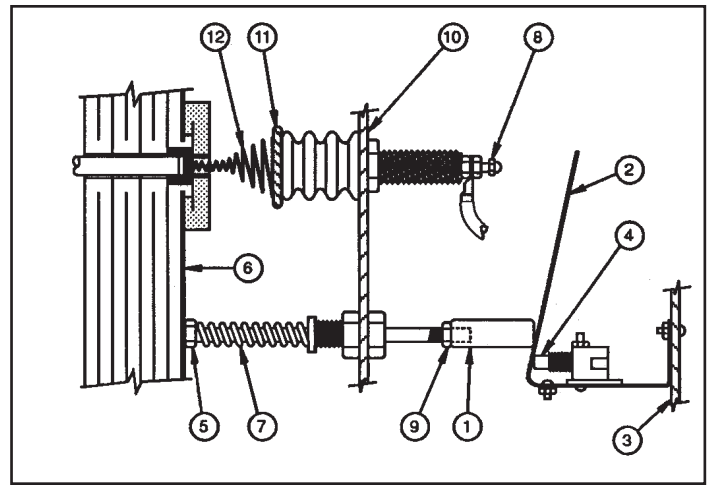
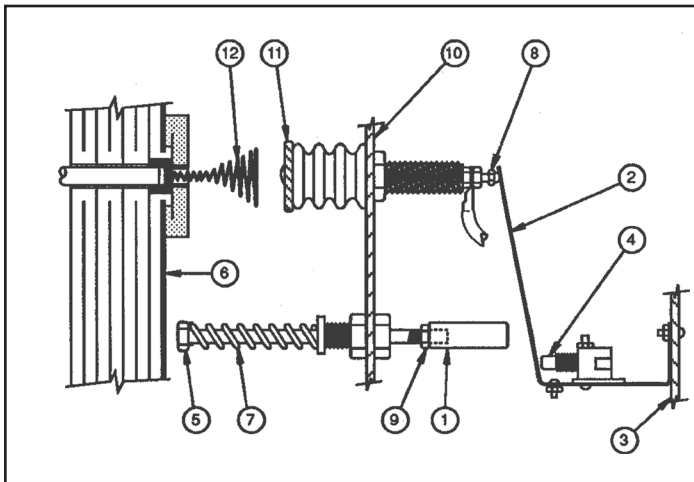
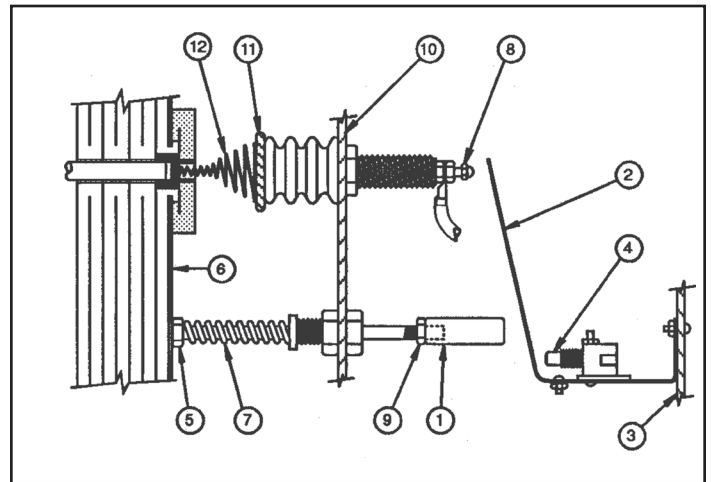

Figure 9
Figure 10
Figure 11
During normal operation, with unicells in place, the component door (10) and the power pack door closed (3), the push rod (5) is in contact with unicell endplate (6). Push rod extension (1) is in contact with the ground bar (2) and bends to contact the limit switch (4). Refer to Figure 9. Upon opening the component door (10), the push rod (5) is released from the unicell endplate (6) and spring (7) compression is relieved, breaking the contact of the push rod extension (1) from the ground bar (2), placing AC voltage off line to the power pack and causing the grounding bar to contact the acorn nut (8). Refer to Figure 10. When opening the power pack door (3), the spring (7) remains compressed but the grounding bar (2) is pulled from the push rod extension (1) as the power pack door (3) is opened. AC voltage is placed off line to the power pack by opening the limit switch (4) which the unicells are grounded through the acorn nut (8), but with the contact spring (12) fully compressed. Refer to Figure 11.